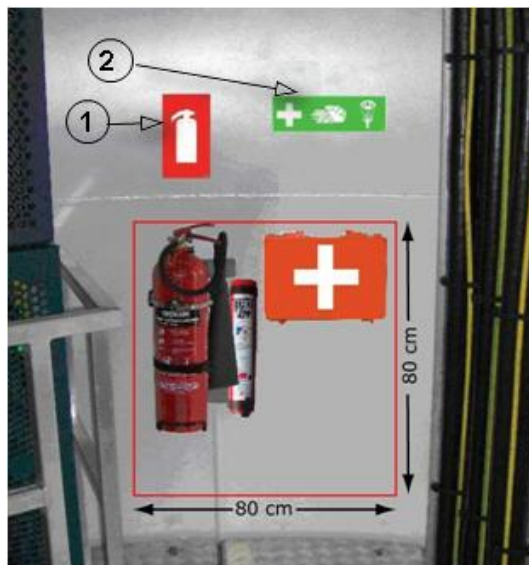

Figure 3-1: Firefighting equipment
2. Attach the fire extinguisher sign as shown in Figure 3-1, p. 3.
4. If there is no fire extinguisher sign, locate a place on the tower wall with adequate space for the firefighting equipment and the first aid kit (a minimum of 80 x 80 cm). See Figure 3-1, p. 3.
1. Install the first aid kit below the first aid kit sign at the base of the tower. See Figure 3-1, p. 3.
5. If there is no 'First Aid' sign, locate a place on the wall with adequate space for the firefighting equipment and first aid kit (a minimum of 80 x 80 cm). See Figure 3-1, p. 3.